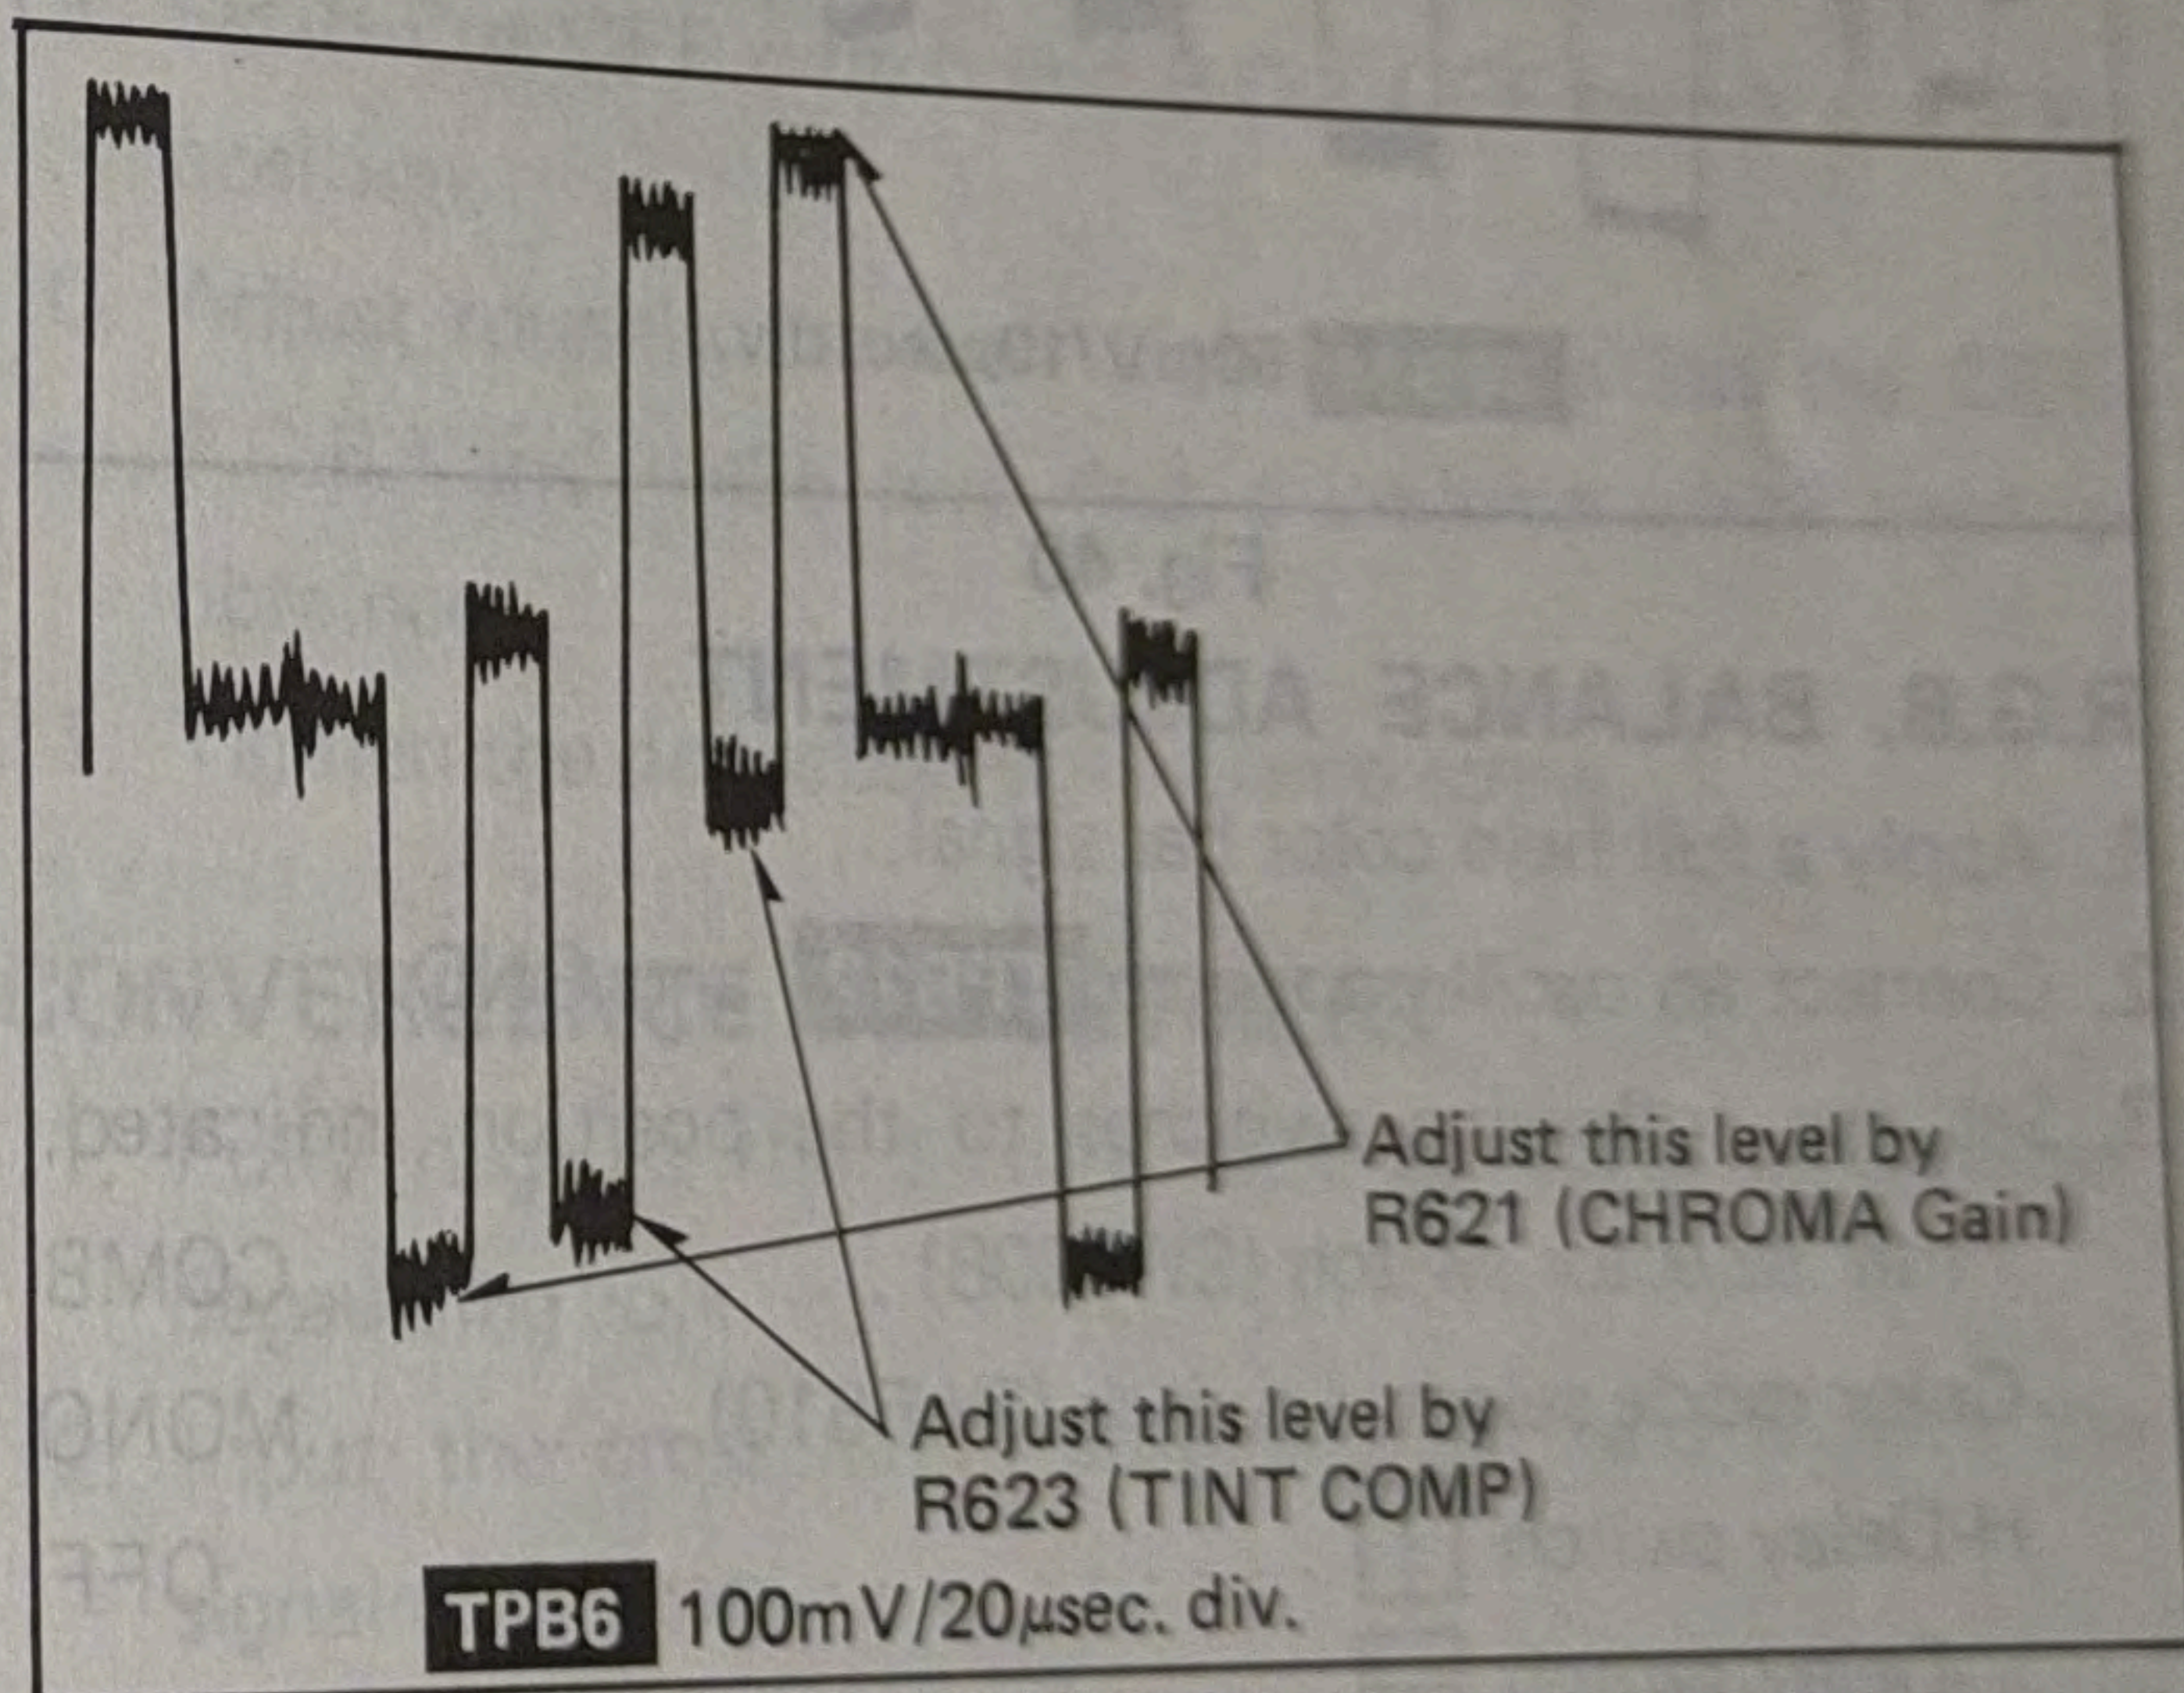

Fig. 38
- Adjust R621 (CHROMA Gain) and R623 (TINT Comp) so that the waveform at this point of time becomes equal to that recorded in Step 5 as shown in Fig. 38.